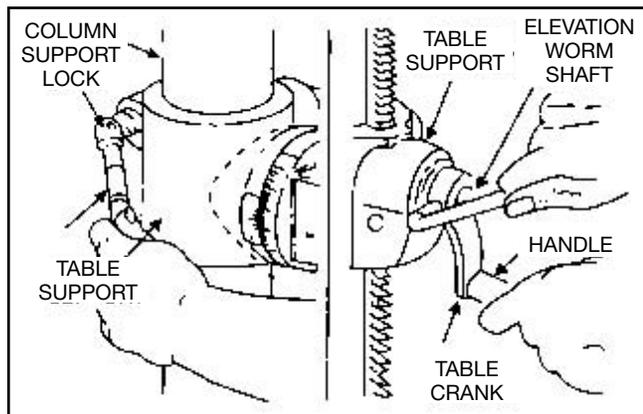

FIGURE 5
7. Install table crank assembly and tighten set screw with a 7/64" Hex "L" wrench. Do not overtighten. Set screw should be tightened against the flat section of the shaft. See figure 5.